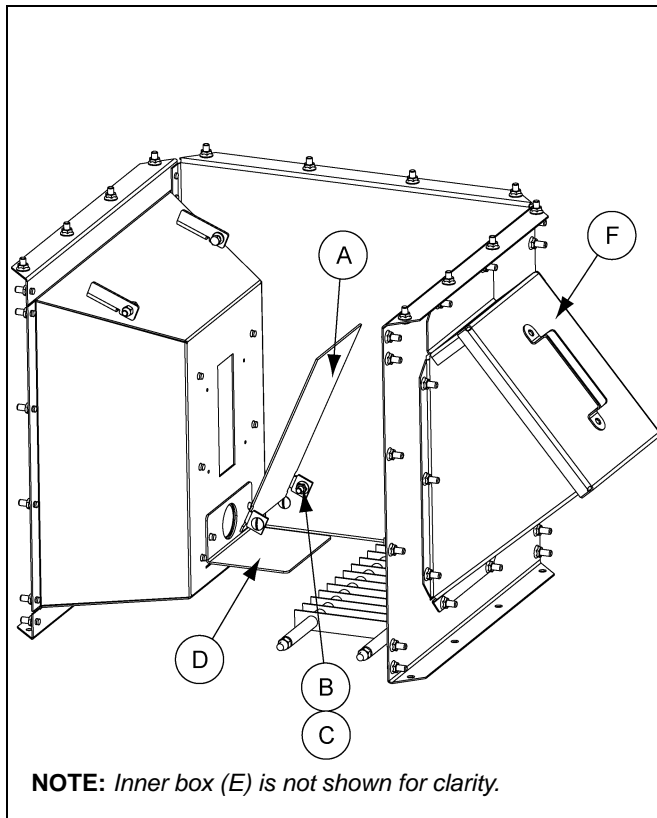

Figure 2A
1. Remove the access door (F) to the moisture sensor housing assembly.
3. Install inner plate (D) inside the moisture sensor housing assembly at the same time as the blower moisture tube weldment (GT4-1532) is installed on the outside of the moisture sensor housing.
4. Assemble the cover plate (A) into the new inner box (E) and install the assembly into the inside of the moisture sensor housing. (See Figures 2A and 2B.)